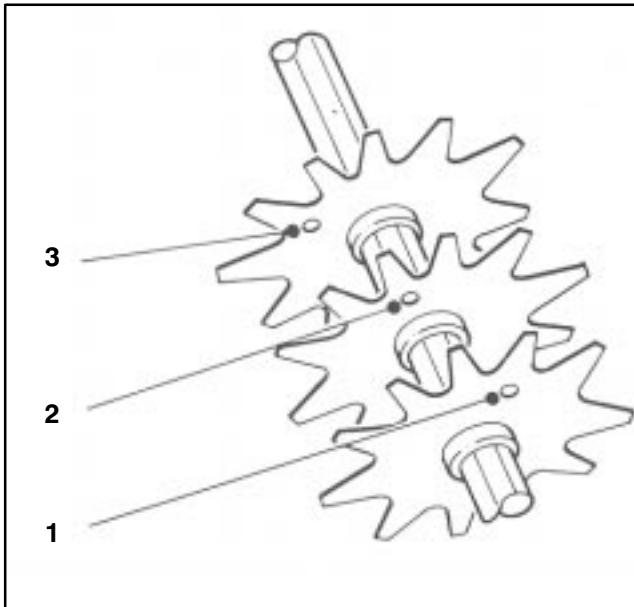

Figure 13
4. Install the next blade counter–clockwise so the index reference hole is not aligned with the first blade hole by one hex of the shaft (Fig. 13). Continue to install spacers and blades in this manner until the full complement of blades have been installed. When properly assembled, the blades will be staggered in such a manner to give a helix appearance.